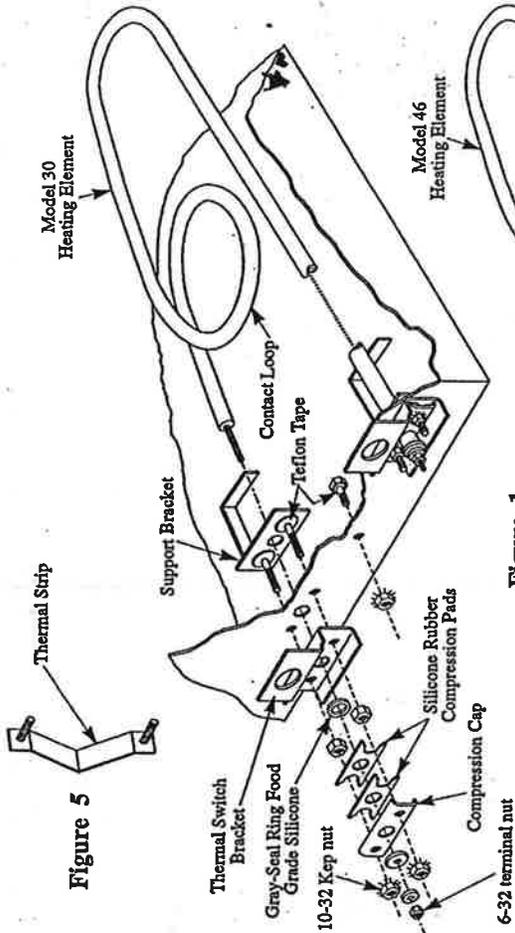

Figure 1
- A. If the support bracket and thermal switch bracket are as shown and do not leak, insert the heating element (figure 1).
Note: Remove old style thermal strap and thermal switch bracket. Place the new support bracket through the inside of the tank as shown and place the new thermal switch bracket on the outside of the tank, use the standard 10-32 hex nuts. To assure proper alignment of parts, insert the heating element through the tank wall as shown. Before tightening the bracket nuts, adjust brackets so the heating element is centered as near as possible in the space provided for the seal ring. Tighten all nuts. Plug the old thermal strap holes with the teflon wrapped 10-32 stainless steel bolts and Kep nuts (figure 1 & 5).